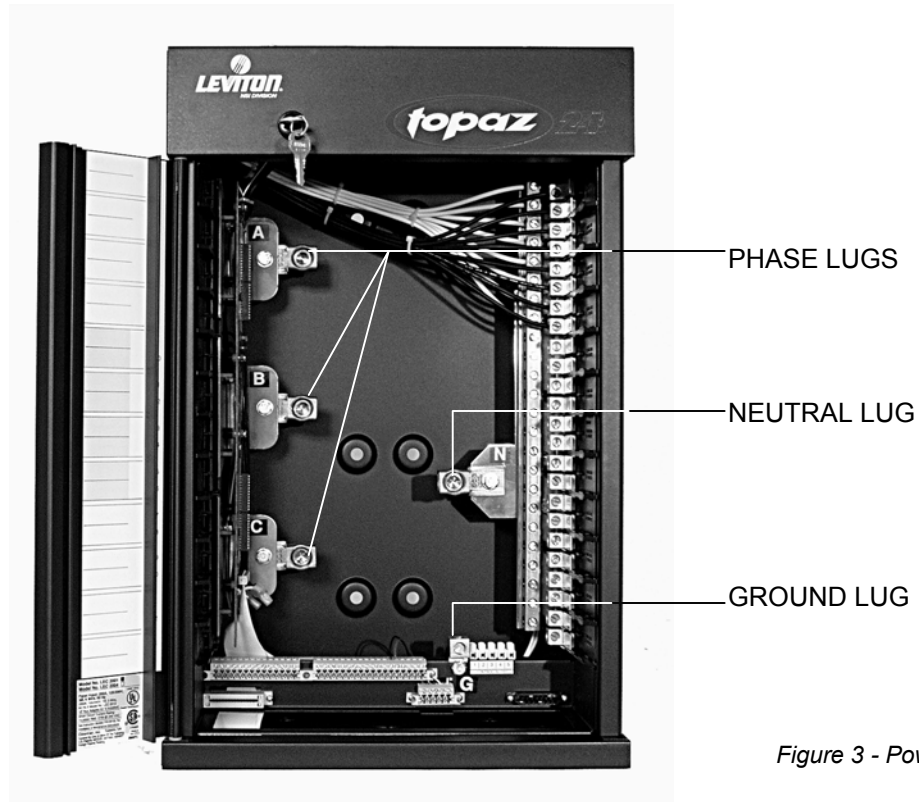

Figure 3 - Power Lug Locations
- Remove the terminal lugs on the ØB bus and either the ØA or ØC bus. Refer to Figure 3. Keep the hardware, as it will be reused below.
- Connect the feeders at the phase, neutral and ground lugs and tighten according to Table I. See Figure 3 for lug locations. (If rack has been converted to single phase, only lugs A & C will be terminated.)